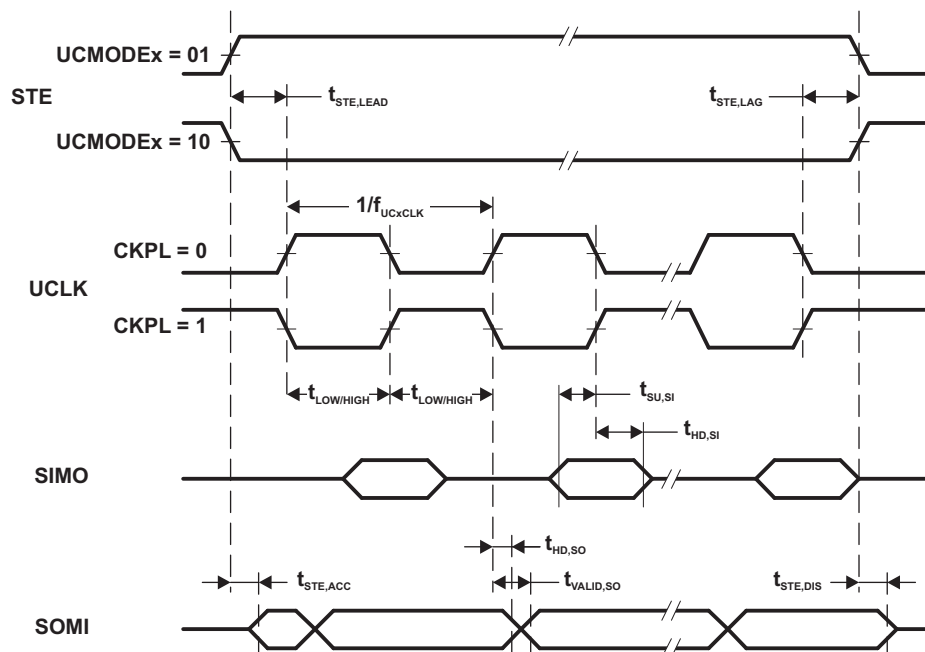
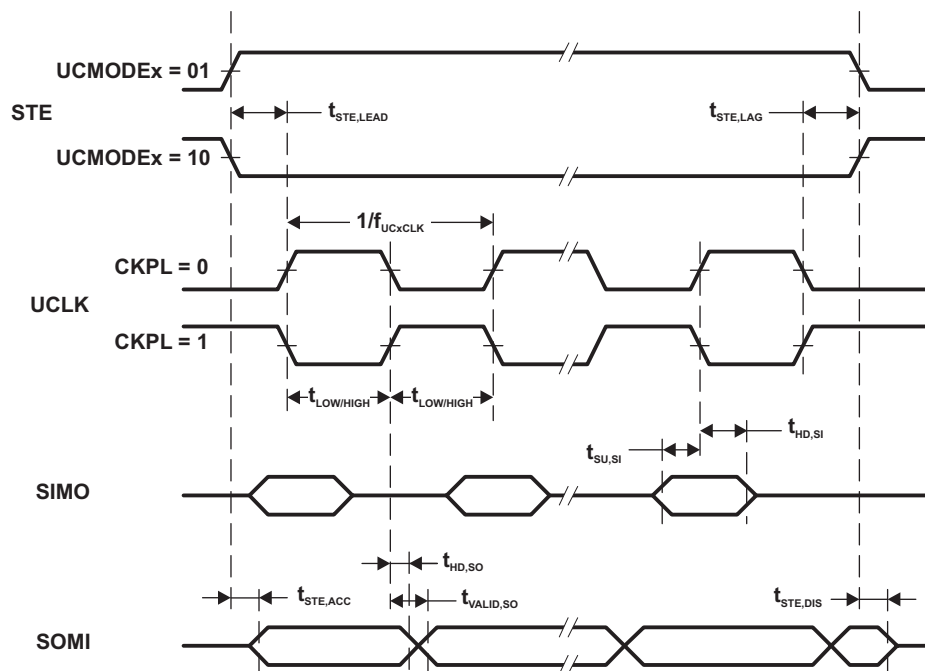

Figure 5-17. SPI Slave Mode, CKPH = 0
Figure 5-18. SPI Slave Mode, CKPH = 1
(2) Specifies the time to drive the next valid data to the SOMI output after the output changing UCLK clock edge. Refer to the timing diagrams in Figure 5-17 and Figure 5-18.
(3) Specifies how long data on the SOMI output is valid after the output changing UCLK clock edge. Refer to the timing diagrams in Figure 5-17 and Figure 5-18.